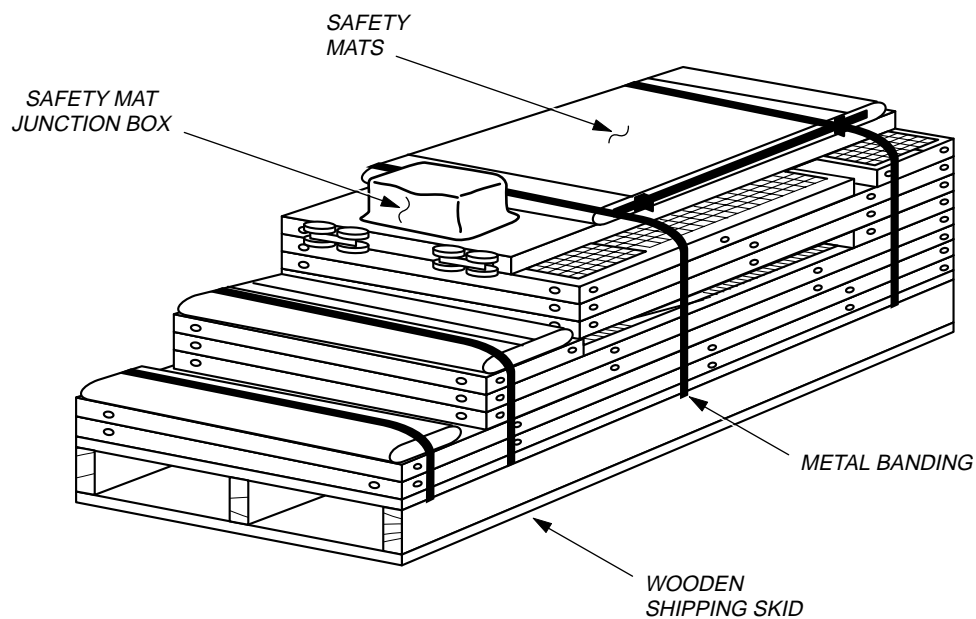

Figure 4-6 Crated Fencing Skid
2. Place torch tender next to robot as shown in Figure 4-6.